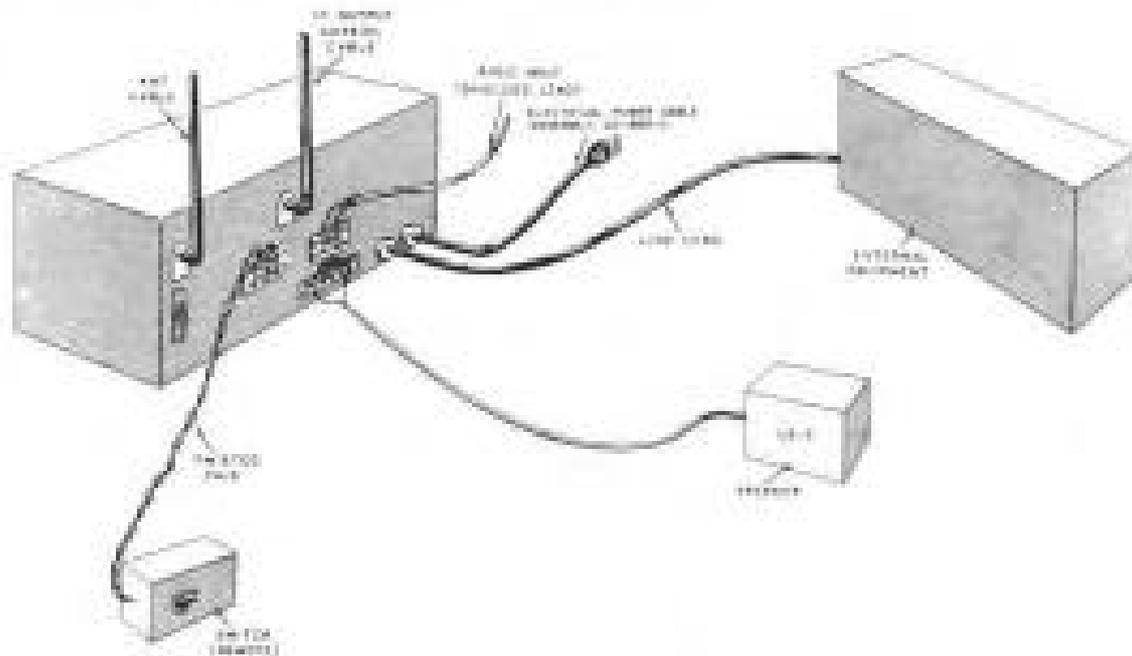

Fig. 2. Connections for Operating
**SPEAKER** - Connect the speaker, if used, to the AUDIO OUTPUT terminal strip (E4) on the rear of the chassis (Fig. 2). The audio output is designed to match either a 150- or 500-ohm load by connecting the secondary windings of the auto-coupled transformer, T15, in series or just using one of the secondary windings. Normally, when matching a speaker to a line, the 500-ohm output is preferred. In this case the secondary may be connected in series by connecting a jumper wire across terminals 3 and 4 on the AUDIO OUTPUT terminal strip (E4). If a speaker of the permanent magnet type is used with a low-impedance voice coil (5 to 30 ohms), a matching transformer should be used between the receiver audio output and the speaker. A bracket may be plugged into the PHONO jack (E) on the front panel. The headphone output is designed to accommodate various impedances that headphones usually require. Bell-type equipment or connected through an RF Cable Assembly (not supplied) jack (E) on the top rear of the chassis. Connect a 500-ohm 2-watt load resistor across terminals 1 and 3 of the AUDIO OUTPUT strip (E4) if no external equipment is to be connected to this output, and place a jumper wire across terminals 3 and 4.
**REMOTE STANDBY SWITCH** - To provide a remote connection for a stand-by switch the connecting wires must be connected to the REMOTE/NO. terminal strip (E2) on the rear of the chassis (Fig. 2). To make connections to this terminal strip, the terminal strip cover must be removed by taking out the two retaining screws.